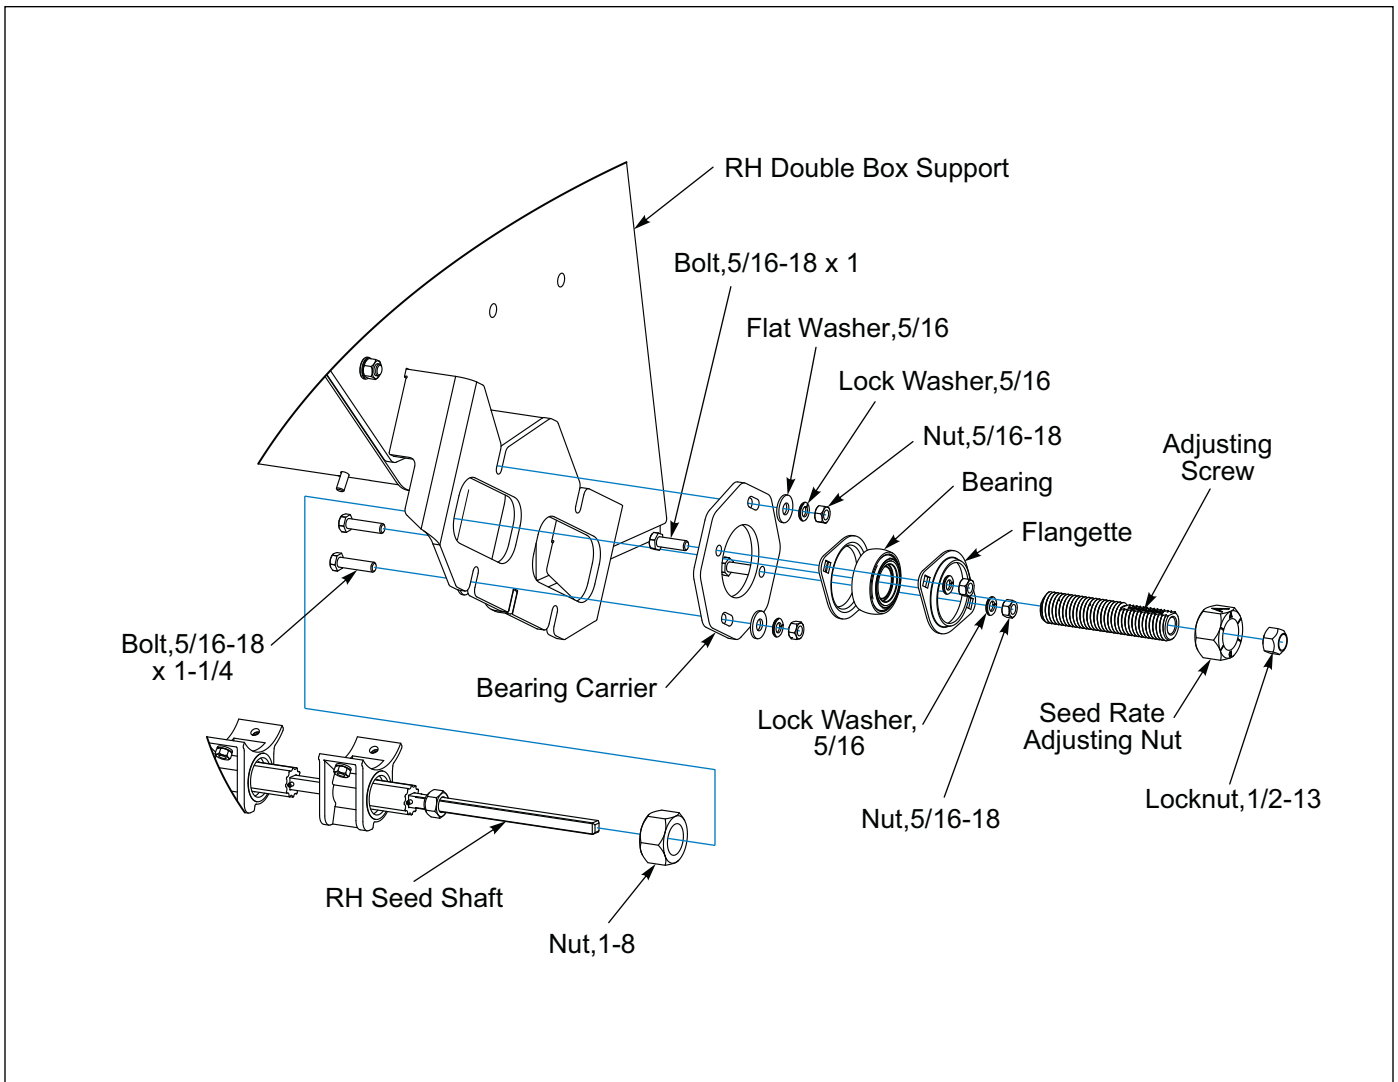

Figure 2-35: Rear Box RH End Assembly
24. Install Bearing Carrier onto RH Double Box Support with 5/16-18 x 1-1/4 Bolts, Flat Washers, Lock Washers and Nuts. **See Figure 2-35.**